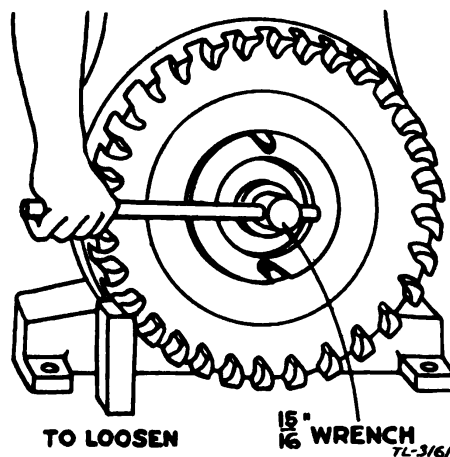

FIGURE 19.—Removing the flywheel.
- (1) With the carburetor attached to the motor and hooked up to the governor lever with the throttle link, loosen the screw holding the governor lever on the shaft.
- (2) Push the governor lever toward the left as far as it will go.
- (3) Hold it in this position and turn the governor shaft clockwise with pliers until it strikes a stop in the crankcase.
(4) Tighten the screw binding the governor lever to the shaft until the lever is snug.
(5) Push the governor lever to the right as far as it will go and tighten the screw securely.
27. Flywheel, Briggs and Stratton engine.—*a. Removing.*—The flywheel is securely attached to the crankshaft by means of a taper fit, a soft flywheel key, lockwasher, and a right-hand thread nut. Remove the blower housing. Place a block of wood under a flywheel fin on the left side of the flywheel to hold it rigid and prevent its turning. (See fig. 19.) Place a $\frac{15}{16}$ -inch socket wrench on the nut. Apply force to the wrench in a counterclockwise direction and tap it with a hammer to loosen. Great care is necessary in this operation to prevent breaking a fin from the flywheel which would cause unbalance and render it useless. After the pulley is removed, remove the two screws and washers from the flywheel. Then the flywheel can be removed with the aid of the flywheel puller, No. 29157, provided with the motor.